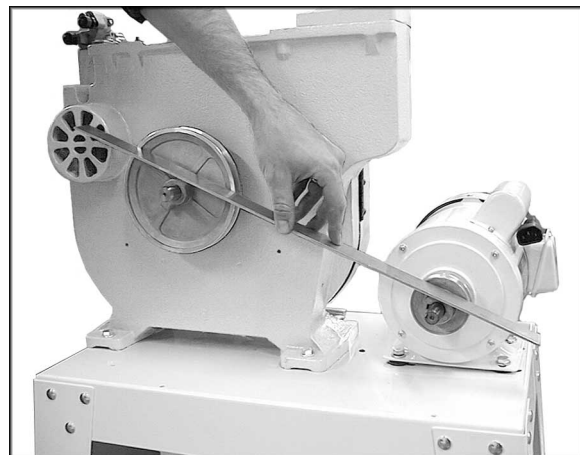
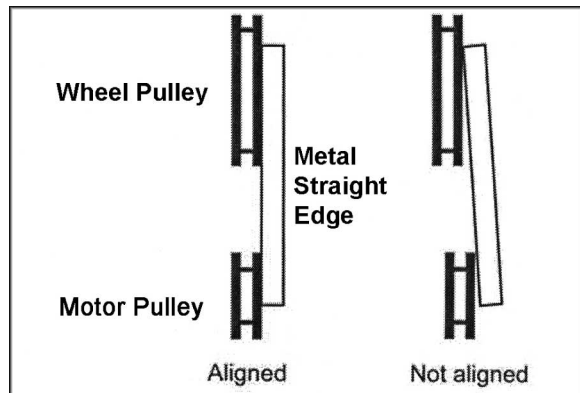

Figure 6
Figure 7
- Align the motor pulley with the large pulley using a straight edge against the flat sides of the pulleys, as shown in Figure 6. The pulleys should lie in a straight plane (Figure 7). Slide the motor as needed to align the pulleys. If further adjustment is required, loosen the set screw in one or more of the pulleys and move the pulley(s) until they line up. Tighten set screw(s).